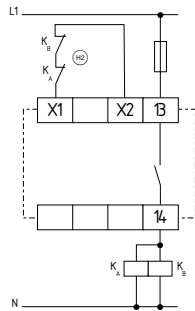

Fig. 18
**Dual-channel control with feedback circuit (Fig. 18)**